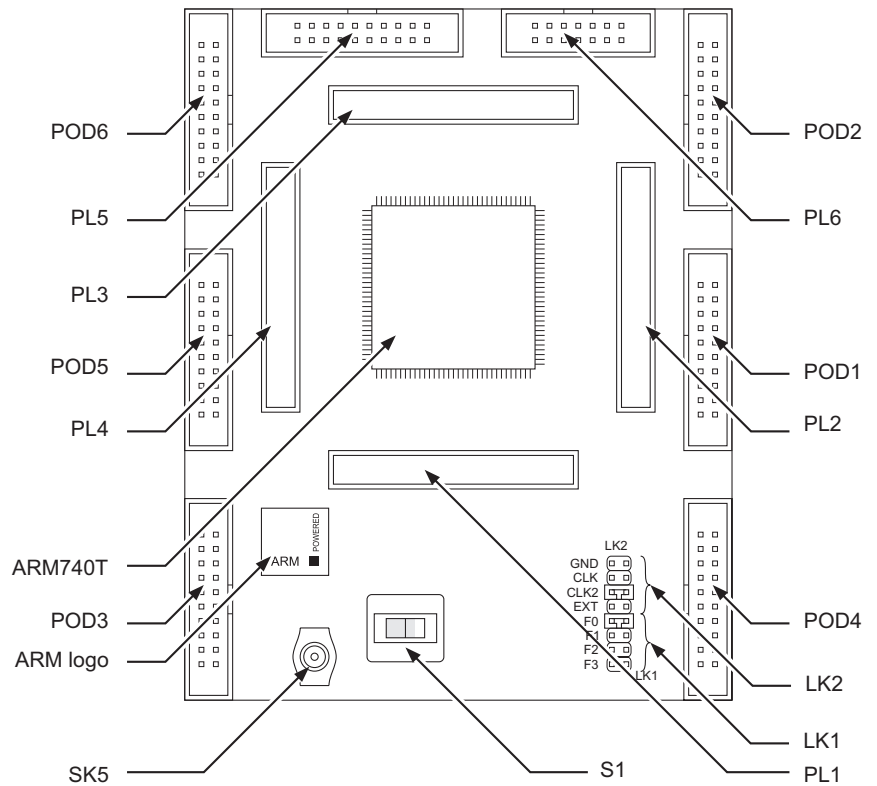

Figure 1-1 Board layout
Figure 1-1 shows the layout of the main components of the ARM740T header card.
A 50-ohm mini-coax connector, SK5, is provided to allow an external clock source to drive core clock, **FCLK**, of the ARM740T. A 47-ohm resistor, R20, provides an approximate 50-ohm termination. The EXT link of LK2 should be fitted before an external clock source is connected to SK5. Figure 1-1 on page 1-3 shows the position of SK5.
Switch S1 is used to select between asynchronous mode (STD) and Fastbus mode (FB). The position of S1 is shown in Figure 1-1 on page 1-3.